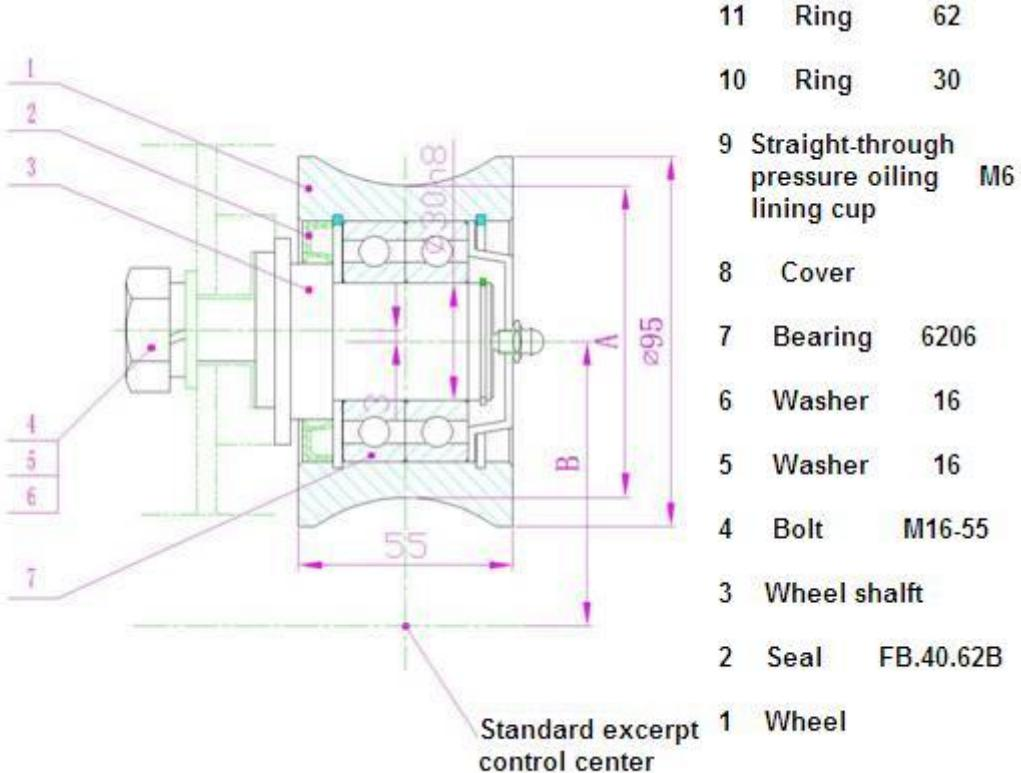

Figure 17
### 9.4 roller wear limit (see figure 17)
9.5 drive gear and gear wear safety device (see Figure 17)